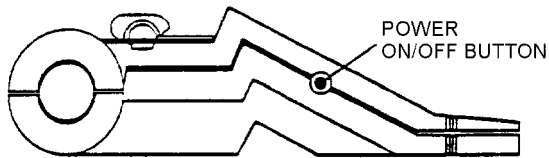

Figure 13. Power ON/OFF Button
- a. Locate power ON/OFF button found along left side of printer (Figure 13).